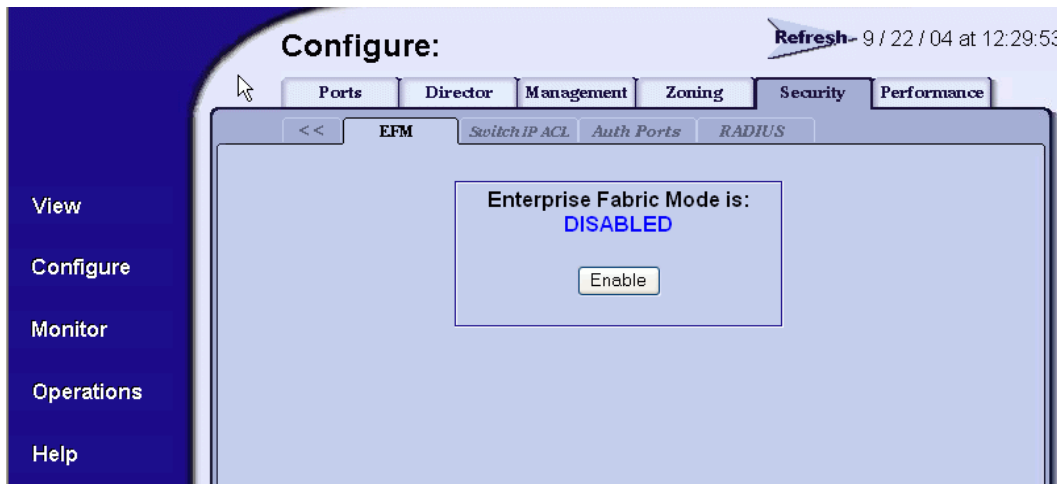

Figure 2-22 Configure Panel (Security Page with EFM Tab)
1. At the *Configure* panel, click the *EFM* tab. The *Security* page displays with the *EFM* tab selected (Figure 2-22 on page 2-36).